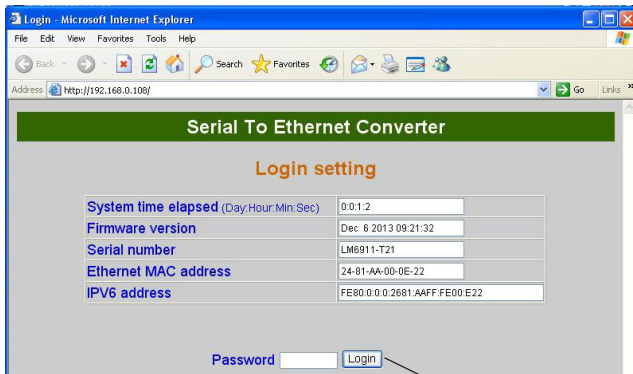

Figure 6
5. Click the **Web Browse button**  to open the **Web Browser Configuration** webpage. See **Figure 6**.
See **Figure 6** and refer to the field descriptions below: